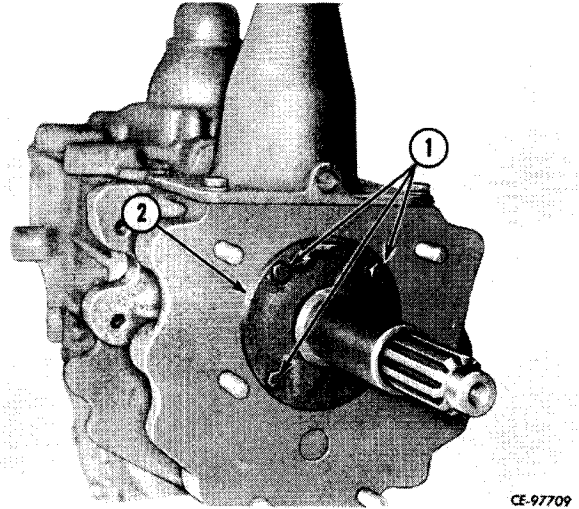

Figure 4-15
Remove cap screws (1, Fig. 4-15) and retainer (2) from reverse housing. Remove and discard gasket.